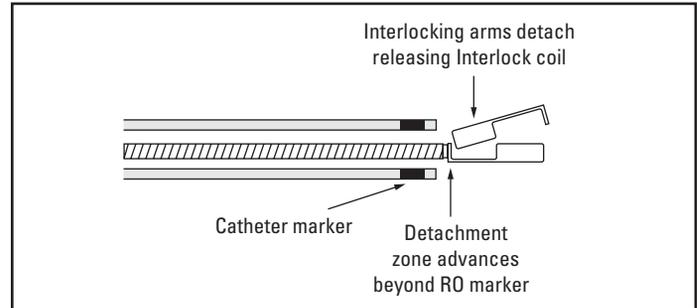

Figure 8. Delivering Interlock - 35 Fibered IDC Occlusion System
14. To deploy the coil, slowly advance the delivery wire under fluoroscopy until interlocking arms pass catheter's tip (Figure 8). Note: If deployment resistance is encountered, slowly rotate delivery wire until coil deploys.